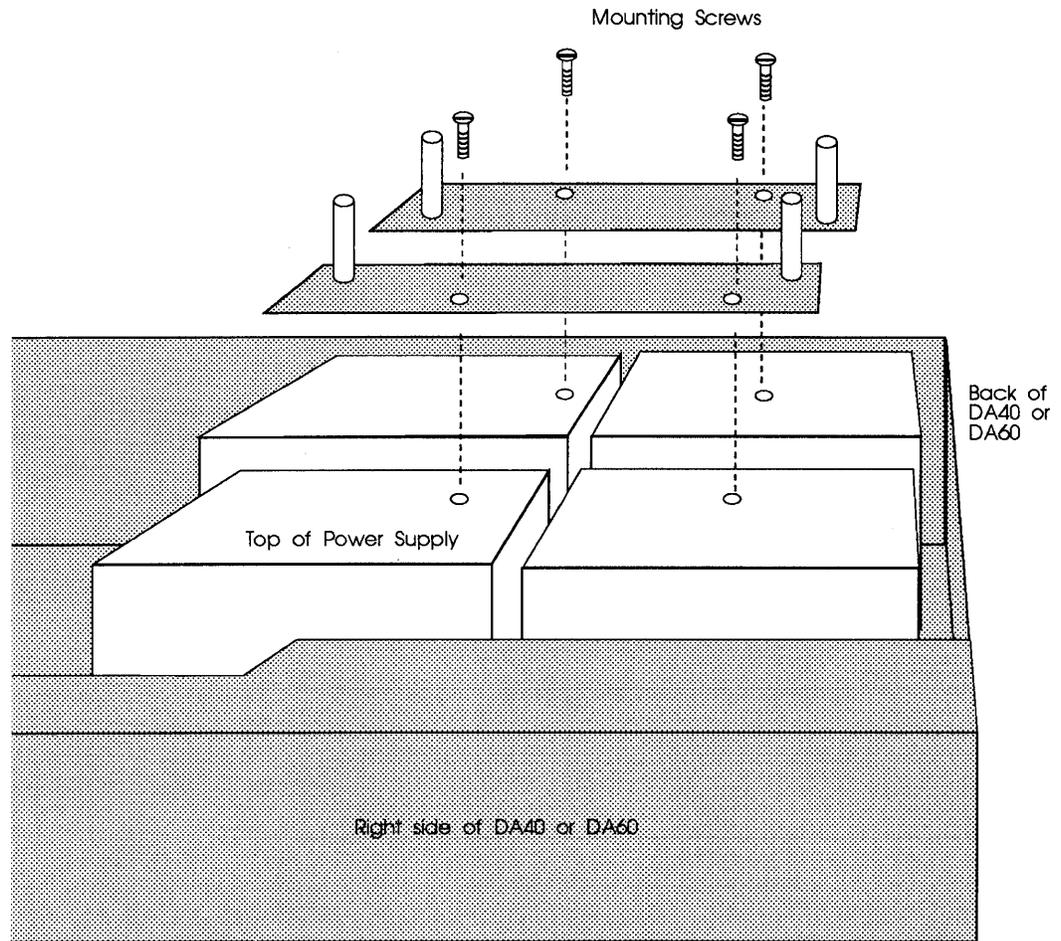

Figure 6-1: Mounting bracket installation
- 6 Place two CDI-4000 mounting brackets on top of the power supply and put two screws into the power supply through each bracket. See Figure 6-1.